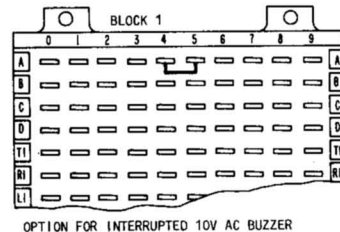

Fig. 13—E Option
- 4.11** The E option (Fig. 13) provides interrupted 10 Vac to operate station buzzers when the station codes are dialed. Option E consists of a strap on block 1 of the 626A panel between terminals 4 and 5 on row A.